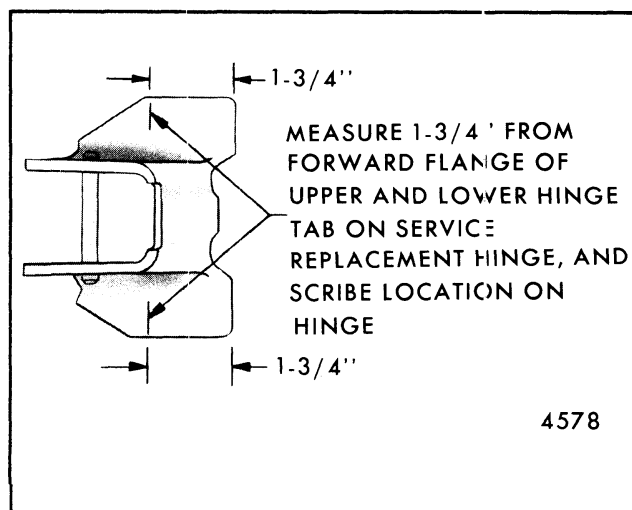

Fig. 5-66-Body Side Hinge Strap Installation - "X" Styles
1. Measure 1-3/4" rearward from upper and lower weld tab forward flange of replacement hinge, and mark dimension on hinge as shown in Figure 5-66.